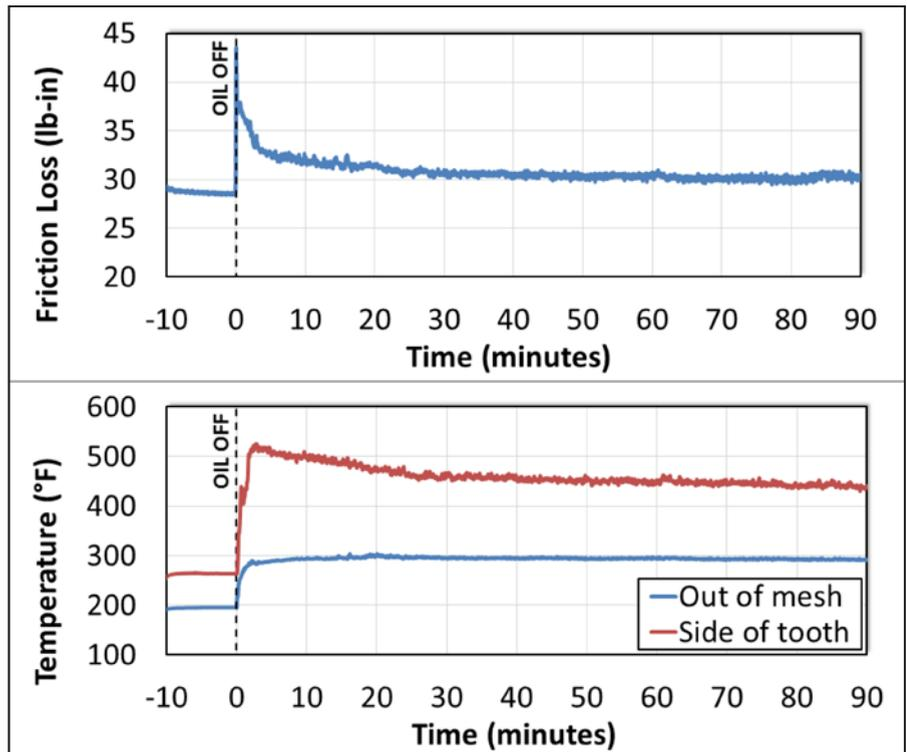

Figure 13 Oil-off results with side-of-tooth thermocouple data (runout).
**Side-of-tooth thermocouple data.** In an effort to correlate out-of-mesh entrained air temperatures to gear tooth surface working temperatures, gears were instrumented with a thermocouple on the side of one tooth using thermally conductive epoxy (Fig. 12). Figure 13 shows the friction loss result of an oil-off test, together with out-of-mesh and side-of-tooth thermocouple data. The side-of-tooth temperature shows an initial maximum followed by a gradual reduction to near steady state (thermal equilibrium). This validates the theory that the maximum heat generation at the mesh interface occurs during the initial scuffing event, indicated by the friction peak immediately after oil-off. This particular test did not catastrophically fail and ran for over 90 minutes without oil. A steady state temperature of approximately 440°F was measured on the side of the tooth when the test was terminated as a runout.
terminated. This data is useful for validating computational models of the loss-of-lubrication event, examples of which can be found in (Figs. 13 and 14).